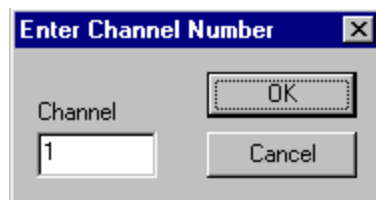

Figure 26. Enter Channel Number
4. From the **Options** menu, choose **Select Channel**. The *Enter Channel Number* pop-up is displayed, as shown in *Figure 26*.